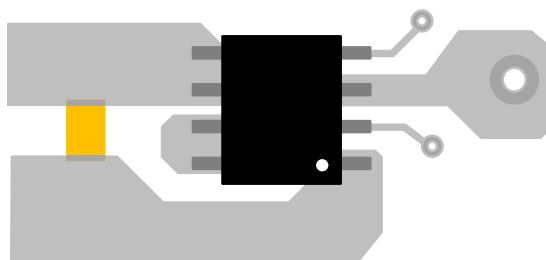

Figure 14: A Bypass Capacitor for Each Half Bridge
7. Figure 14 shows an example dual MOSFETs with an SOIC-8 package.